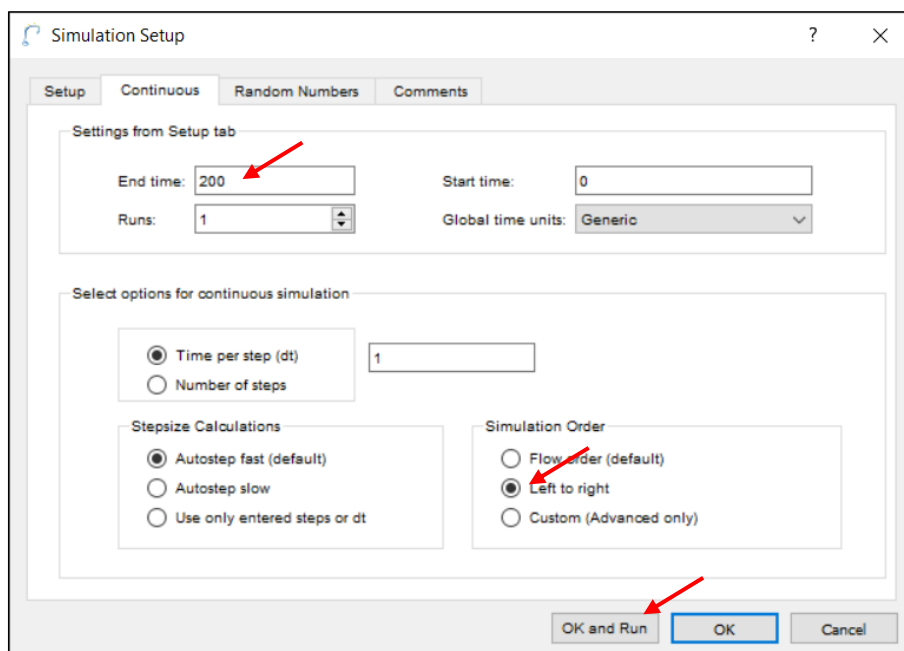

Figure 46: Simulation Setup, Continuous Tab
Select **Simulation Setup** from the **Run** menu. Choose the **Continuous** tab. Type 200 in the **End time** field. The **Time per step (dt)** radio button is selected and the number 1 is in the **Time per step (dt)** field. This setting makes each step of the simulation represent one (1) second of real time. The time per step can be altered but 1 second works for the vast majority of models. Make sure that the **Left to right** radio button, indicating simulation order, is selected. Click on the **Run Now** button. (The simulation can also be run by clicking on the **Run Simulation** button—the green arrow—on the toolbar, or by choosing **Run Simulation** from under the **Run** tab on the menu bar). See Figure 46 for details.